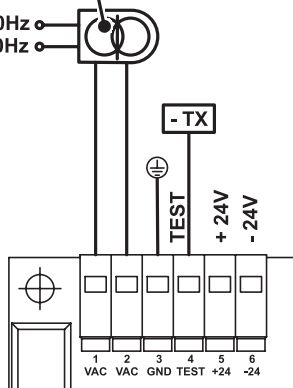

Fig. 2
5.1. TERMINAL BOARD CN1 (Fig. 2)	page.12
5.1. TERMINAL BOARD CN1 (Fig. 2)